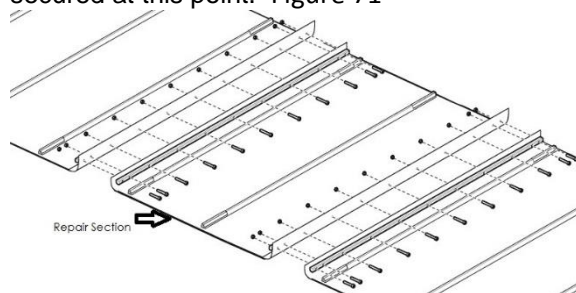

Figure 71
12. Repeat steps 10 through 13 for the other cut. The splice section should be fully secured at this point. Figure 71